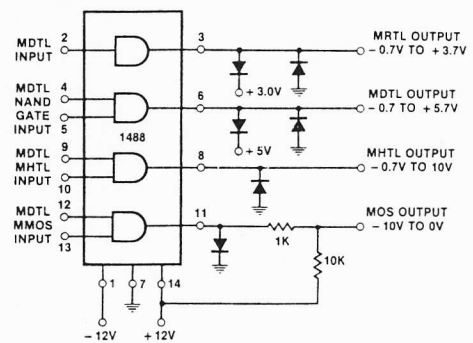

Figure 15—Logic Translator Applications
2. Power-Supply Range—as can be seen from the schematic drawing of the drivers, the positive and negative driving elements of the device are essentially independent and do not require matching power-supplies. In fact, the positive supply can vary from a minimum seven volts (required for driving the negative pulldown section) to the maximum specified 15 volts. The negative supply can vary from approximately -2.5 volts to the minimum specified -15 volts. The 1488 will drive the output to within 2 volts of the positive or negative supplies as long as the current output limits are not exceeded. The combination of the current-limiting and supply-voltage features allow a wide combination of possible outputs within the same quad package. Thus if only a portion of the four drivers are used for driving RS232C lines, the remainder could be used for DTL to MOS or even DTL or DTL translation. Figure 15 shows one such combination.